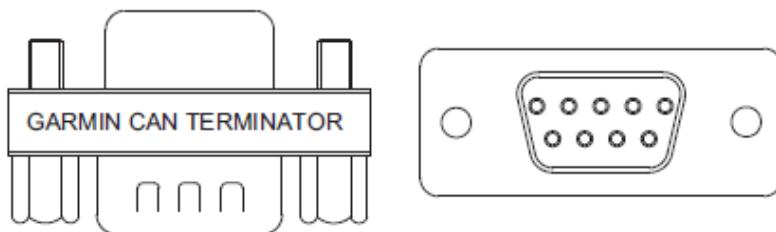
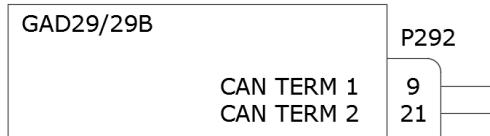

Figure 3-4 CAN Bus Termination (011-02887-00) for G5 and GMU 11
Figure 3-5 CAN Bus Termination for GAD 29/29B
- The G5 and GMU 11 installation kits provide a 9-pin termination adapter that provides termination when attached to the device's main connector. The termination adapter contains a $120\ \Omega$ resistor that is connected between pins 1 and 2 (Figure 3-4).
- The GAD29/29B contains a $120\ \Omega$ resistor inside the unit that provides termination when the two CAN TERM pins are connected together (Figure 3-5). Alternatively the GAD29/29B can be terminated externally using a termination adapter, Garmin P/N 011-02887-00 (Figure 3-4).